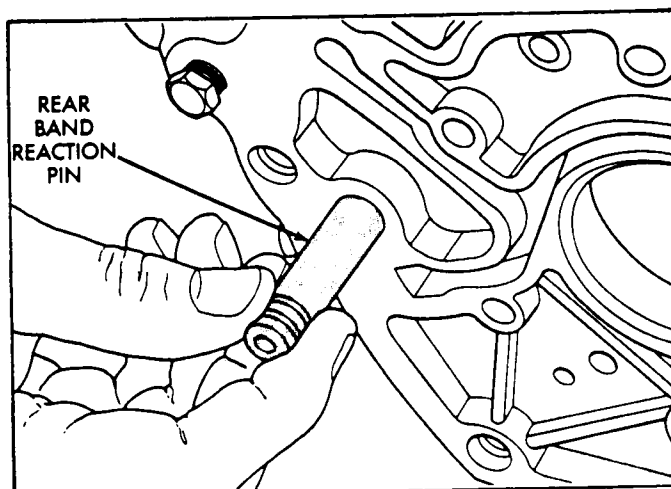

Figure 126
2. Install rear band reaction pin in case as shown in Figure 126, and ensure it is fully seated.